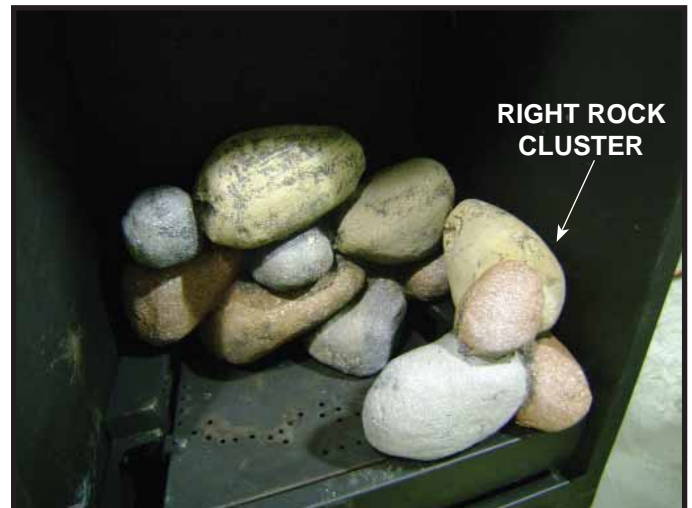
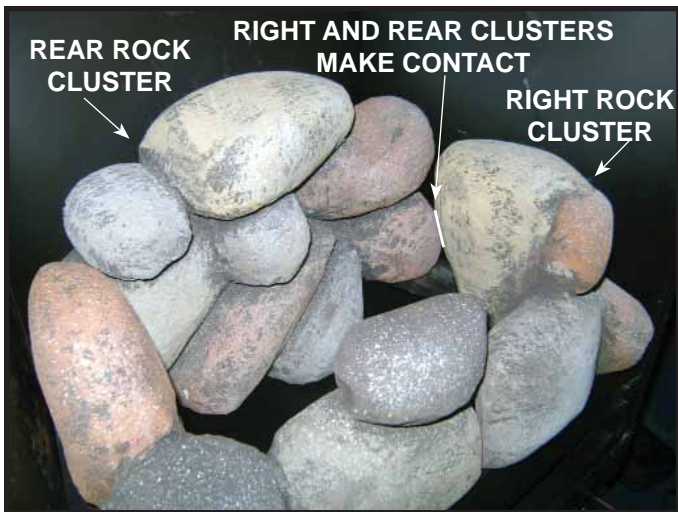

Figure 3. Placing Right Rock Cluster
Figure 4. Right and Rear Rock Clusters Make Contact
2. Place right rock cluster in firebox as shown in Figure 3. The right end of the cluster should touch the right wall of the firebox. Push cluster back until the rear and right rock clusters touch as shown in Figure 4. Ensure the rock clusters are not covering any burner ports.